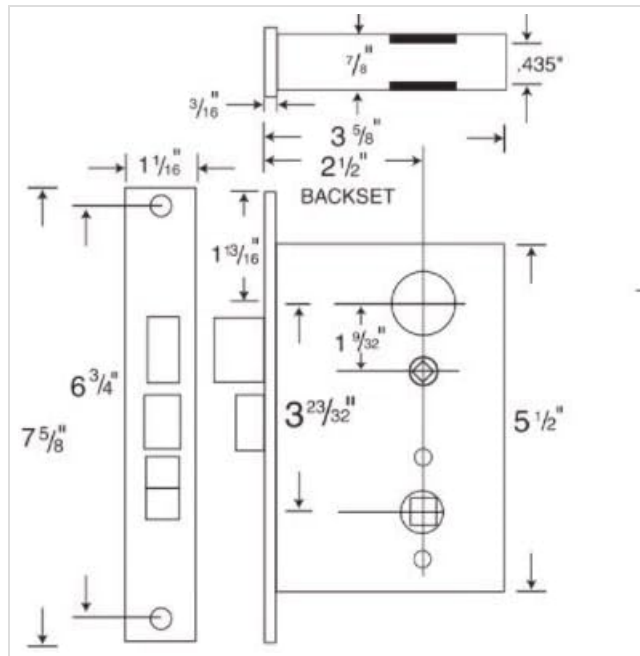

Figure 2: Detailed dimensional drawing of the mortise lock body and associated components, indicating precise measurements for installation.
1. **Prepare the Door:** If installing on a new door, mark and mortise the door for the lock body, faceplate, and trim plates according to the lock's dimensions (refer to Figure 2). Ensure the mortise is deep enough for the lock body to sit flush.